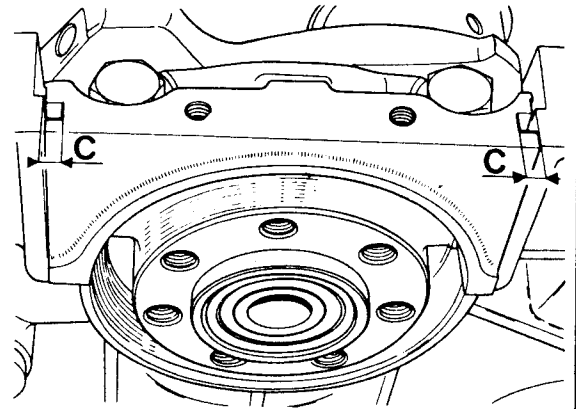

Fig.1.49 No.1 main bearing cap fitted to measure seal gap (C)
- 7 With its shell bearing in position, fit the front main bearing cap (no.1) and screw in the bolts, finger tight (photo). Refer to Fig.1.49 and measure the gap 'C'. If the gap is less than 0.197 in (5 mm) obtain two seals 0.201 inch (5.1 mm) thick, if greater, obtain two seals 0.213 inch (5.4 mm) thick (colour identified by white spots).